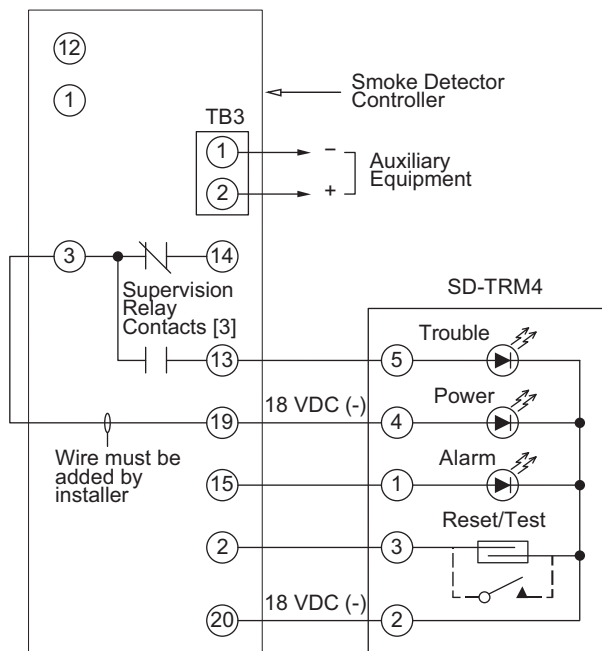

Fig. 43 — Remote Test/Reset Station Connections
The test/reset station dirty sensor test checks the test/reset station's ability to initiate a sensor dirty test and indicate the results. It must be wired to the controller as shown in Fig. 43 and configured to operate the controller's supervision relay. For more information, see "Dirty Sensor Test" on page 34.
1. Verify that the remote test/station is wired as shown in Fig. 43. Repair or replace loose or missing wiring.